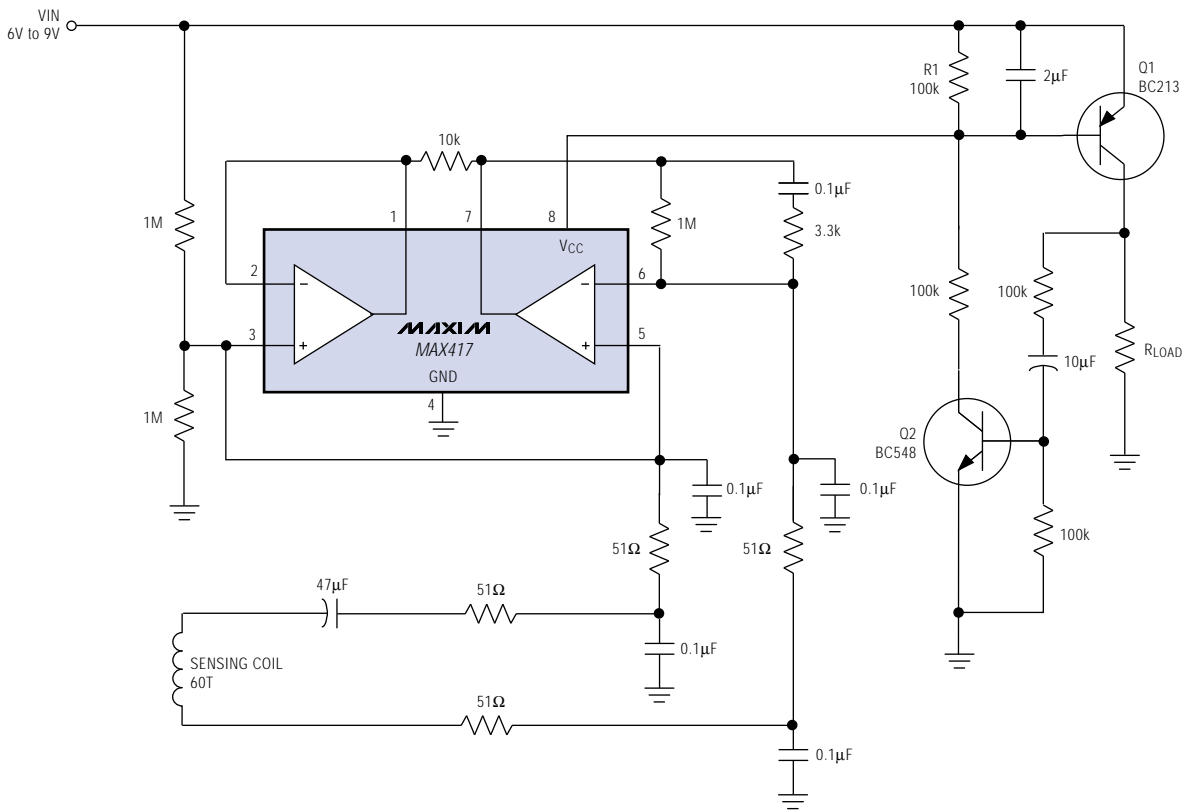

Figure 1. This load switcher enables a small signal to turn on a much larger load current.
**Figure 1's** circuit draws only 6 $\mu$ A, but it enables a small signal of  $\pm 1$ mV or more to switch relatively large load currents. It takes advantage of the IC's very low quiescent current—1.2 $\mu$ A (max) per amplifier (less than a typical battery's self-discharge)—which is able to flow through R1 without turning on Q1. When operated with a sensing coil (as shown) and stimulated by a magnet, the circuit performs the function of a reed switch, but with greater sensitivity. Other applications include alarm systems, bipolar threshold sensing, and audio volume switching.